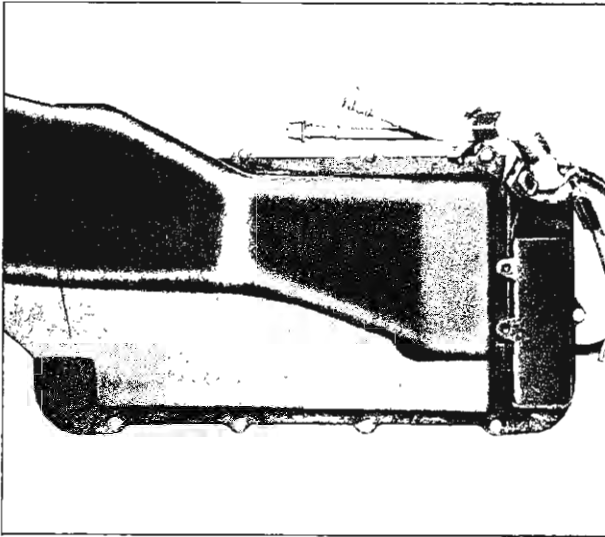

Fig. 10—Evaporator Case—Custom System
3. Turning the unit over, remove the screws (fig. 10) attaching the back cover and gasket to the case and remove the cover and gasket.